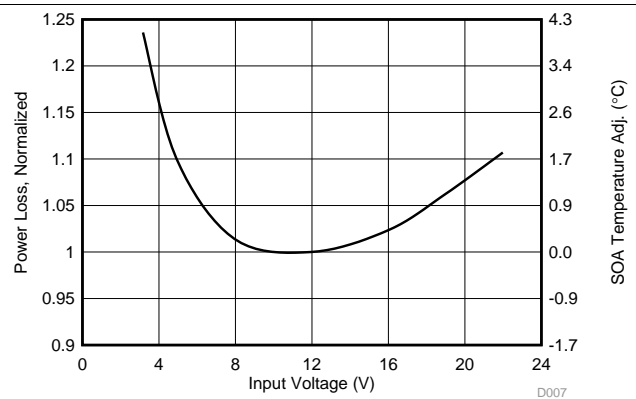

Figure 7. Normalized Power Loss vs Input Voltage
- Normalized Power Loss for input voltage ≈ 1.01 (Figure 7)
- SOA adjustment for input voltage $\approx 0.14^\circ\text{C}$ (Figure 7)